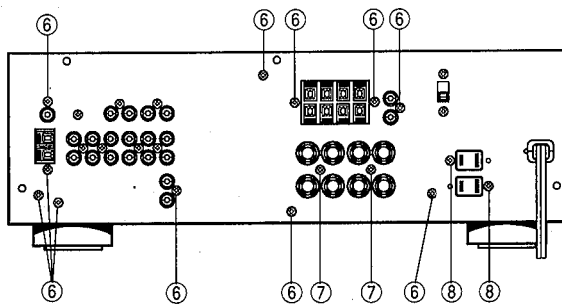

Fig. 3
- Remove 11 screws (⑥), 2 screws (⑦) and 2 screws (⑧) in Fig. 3.